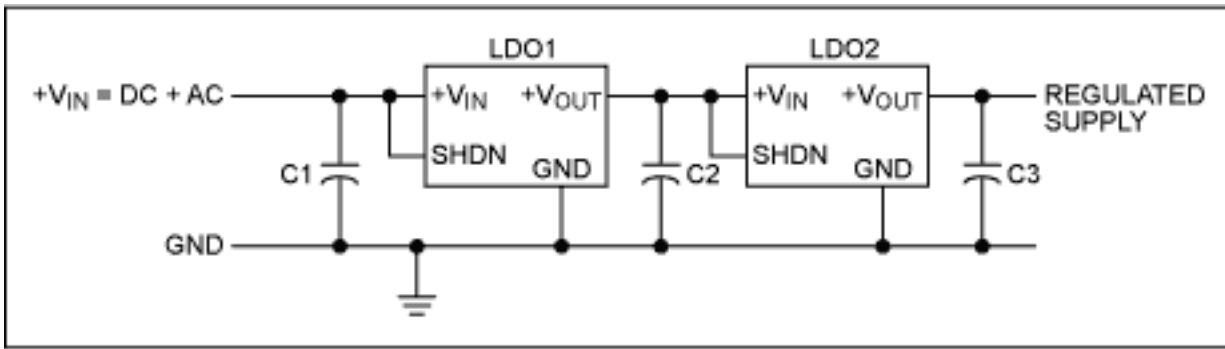

Figure 5. Series cascade of LDOs for input ripple isolation.
**Figure 5** shows two linear regulators cascaded in this manner.